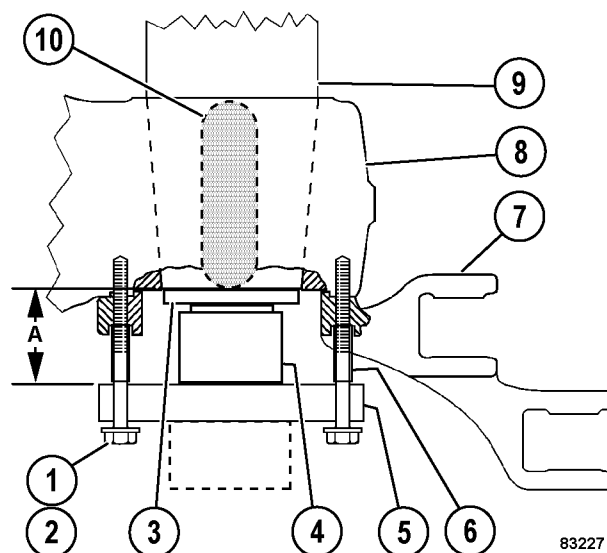

FIGURE 3-5. PULLER TOOL WITH RAM
NOTE: Older pusher tools (5, Figure 3-5) may have been made with a round tube (shown as a dotted line) welded on one side. The tool can be installed upside down and used with a hydraulic ram as shown.
Refer to Section "M", Options & Special Tools for dimensions for fabricating the spindle pusher tool and spacers (6, Figure 3-5). Special cap screws and washers are also required.
11. Locate 13 cap screws (1, Figure 3-5) and washers (2) as specified below:
13. Install pusher tool (5) as shown in Figure 3-5 using the only three cap screws (1), three washers (2) and three spacers (6). The three cap screws must be evenly spaced. Tighten the three cap screws to **68 N·m (50 ft lb)**.